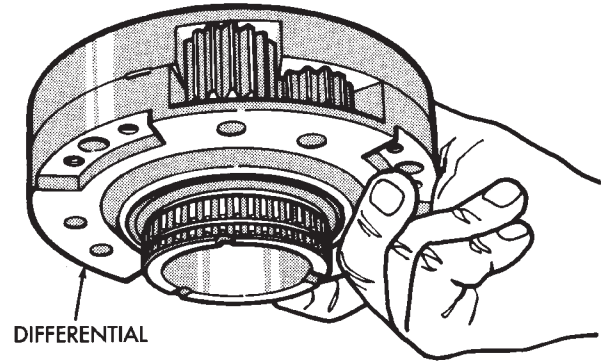

Fig. 57 Differential Installation
(34) Install differential (Fig. 57). **Do not displace mainshaft bearings when installing differential.**